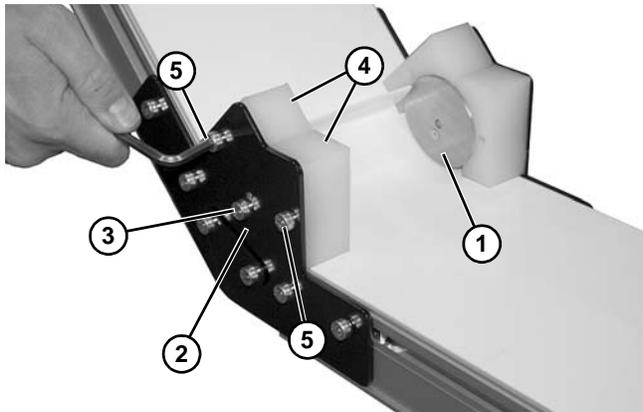

Figure 81
5. If equipped with a lower knuckle, install roller bearing assembly (**Figure 81, item 1**) into knuckle plate (**Figure 81, item 2**) with screws (**Figure 81, item 3**) on both sides of conveyor.
6. Install guards (**Figure 81, item 4**) with screws (**Figure 81, item 5**) on both sides of conveyor.